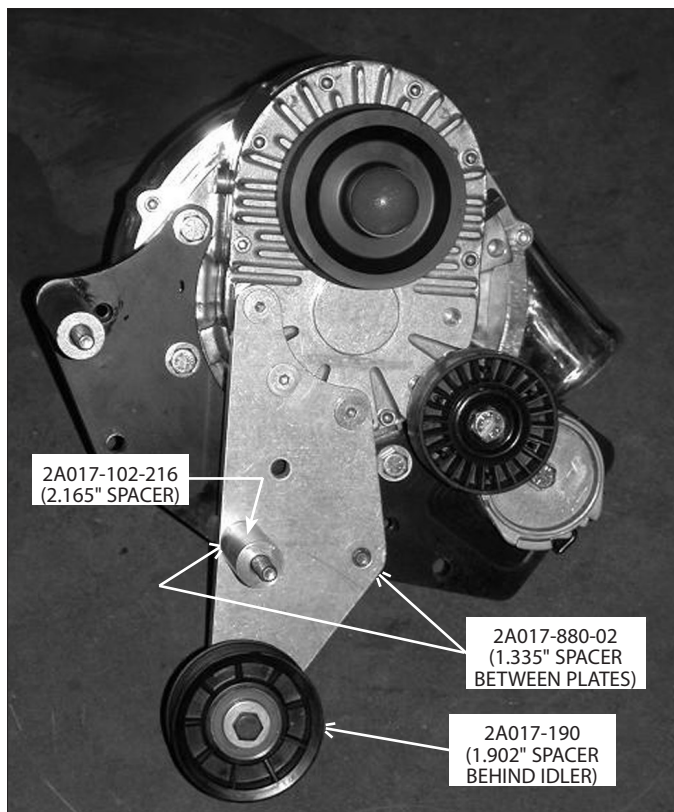

Fig. 8-d
- F.** Attach the supercharger plate assembly to the mounting bracket using the supplied 3/8" x 1-3/4" screws and washers. Install the supplied 4" spacers into the two remaining supercharger mounting plate locations and install the supplied 3/8" x 5-3/4" screws and washers. Tighten the screws. (See Fig. 8-b.)